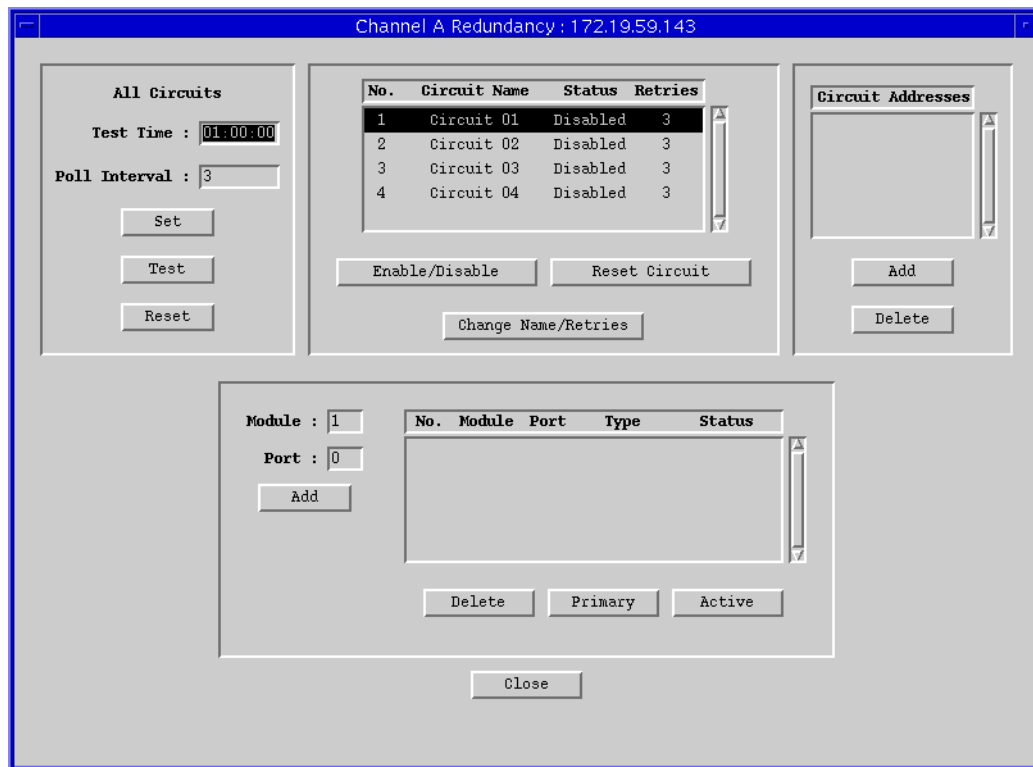

Figure 5-2. The Channel X Redundancy Window
1. In the Repeater Redundancy window, click mouse button 1 on the repeater interface for which you would like to edit or establish a redundant circuit, then click . The Channel X Redundancy window, Figure 5-2, will appear.